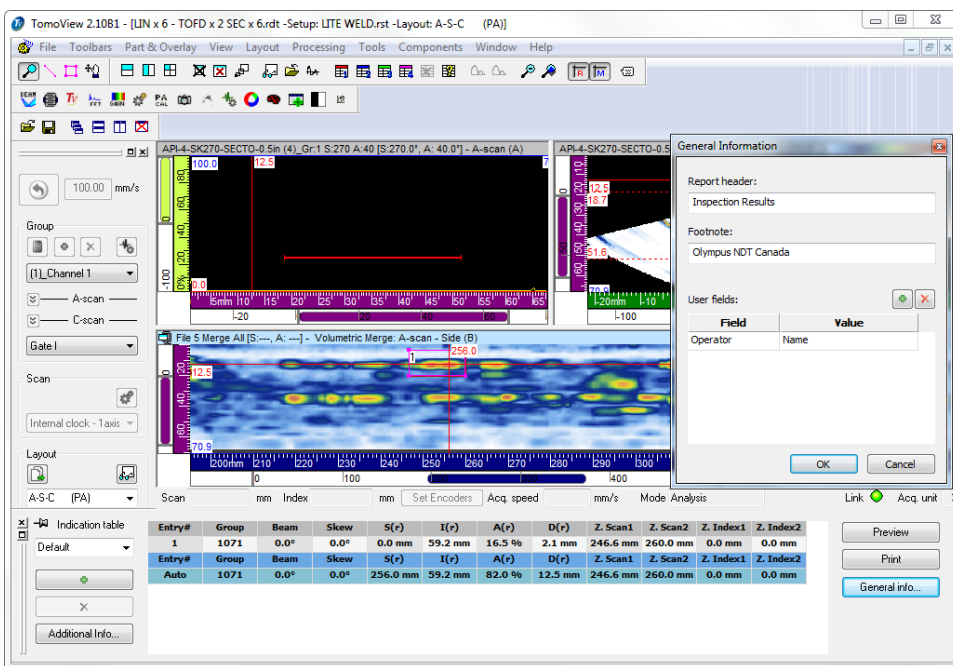

Figure 6-7 Example of the indication table, the cursors, and the Zone tool used to document an indication
1. Select a layout with views that best illustrate the indications in the part (see the example shown in Figure 6-7 on page 325).